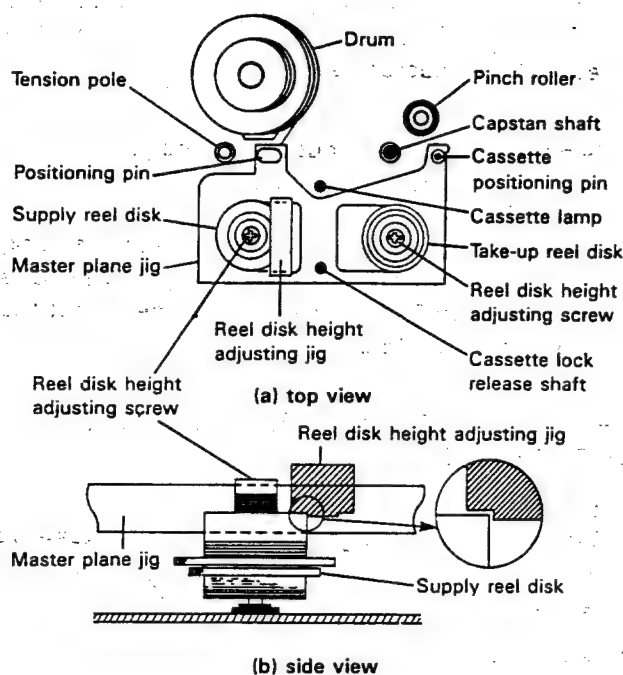

Figure 1-9.
1. Remove the cassette housing assembly, and place the master plane onto the mechanism unit as shown in Fig.1-9 (a), taking care not to hit the drum.
2. Ensure that the reel disk is lower than the part ④ but higher than the part ⑤ of Fig. 1-9 (b), by using the reel disk height adjusting jig. If the height is not correct, adjust the height adjusting screw.